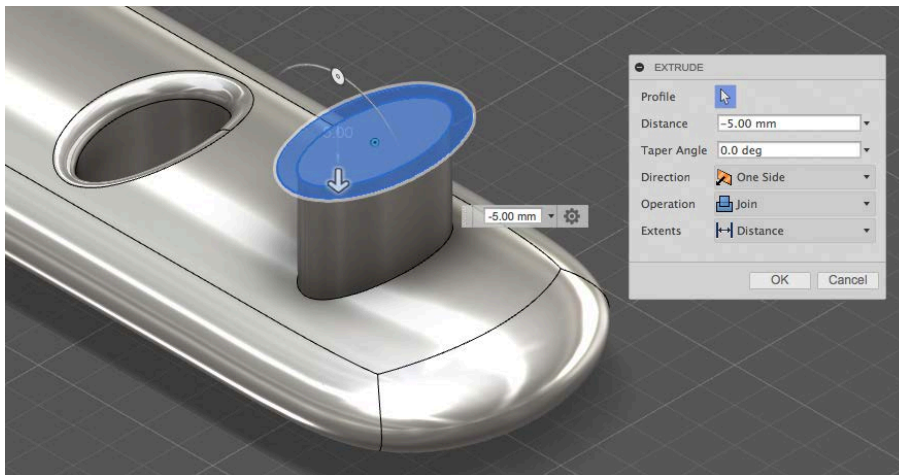

Fig. W15
19. Go to Modify>Press Pull, select the bottom face of the tab and pull it up so that it ends inside the bracelet (Fig. W15).